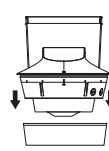
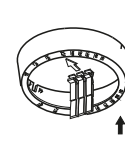

FIG. 17
FIG. 18
- 4.2.2 Fixing lens shield: Take off the decorative frame of the detector head and insert the lens shield into the slot of decorative frame as following illustration (See FIG. 17 & FIG. 18). Then put the decorative frame back to the right position of the detector head.